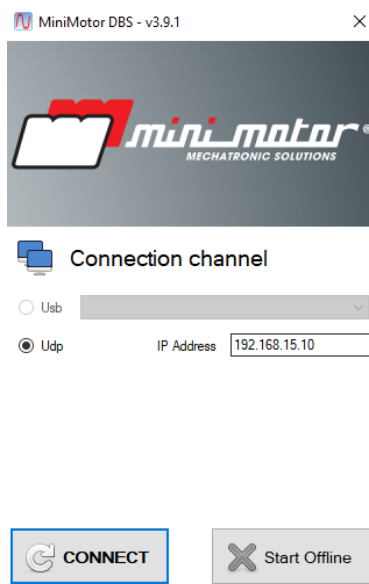

Figure 2
- 5 Once the program is run, select the connection type. If choosing USB, wait for the device to be found and connect. If the DBS is connected via Fieldbus to a net that can exchange data over Ethernet (Ethernet IP, Profinet, Powerlink and EtherCAT with EoE functionality) you can connect typing the DBS IP address. (Figure 2).